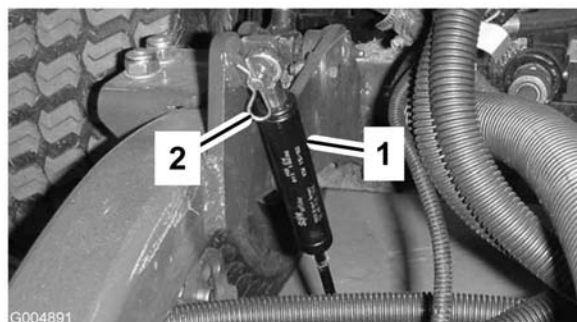

Figure 73
2. Remove the hairpin cotter securing dampers to lift arms (Figure 73). Pivot damper toward deck housing.